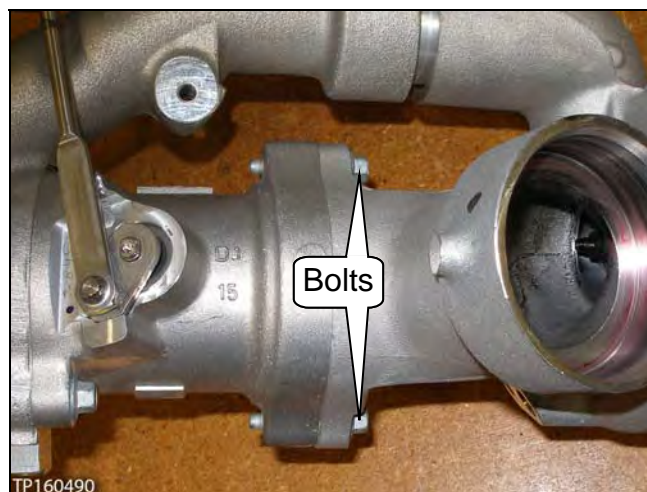

Figure 55
44. Remove the bolts, and then separate the high pressure turbocharger from the turbocharger compressor outlet connection assembly (see Figure 55 and 56).